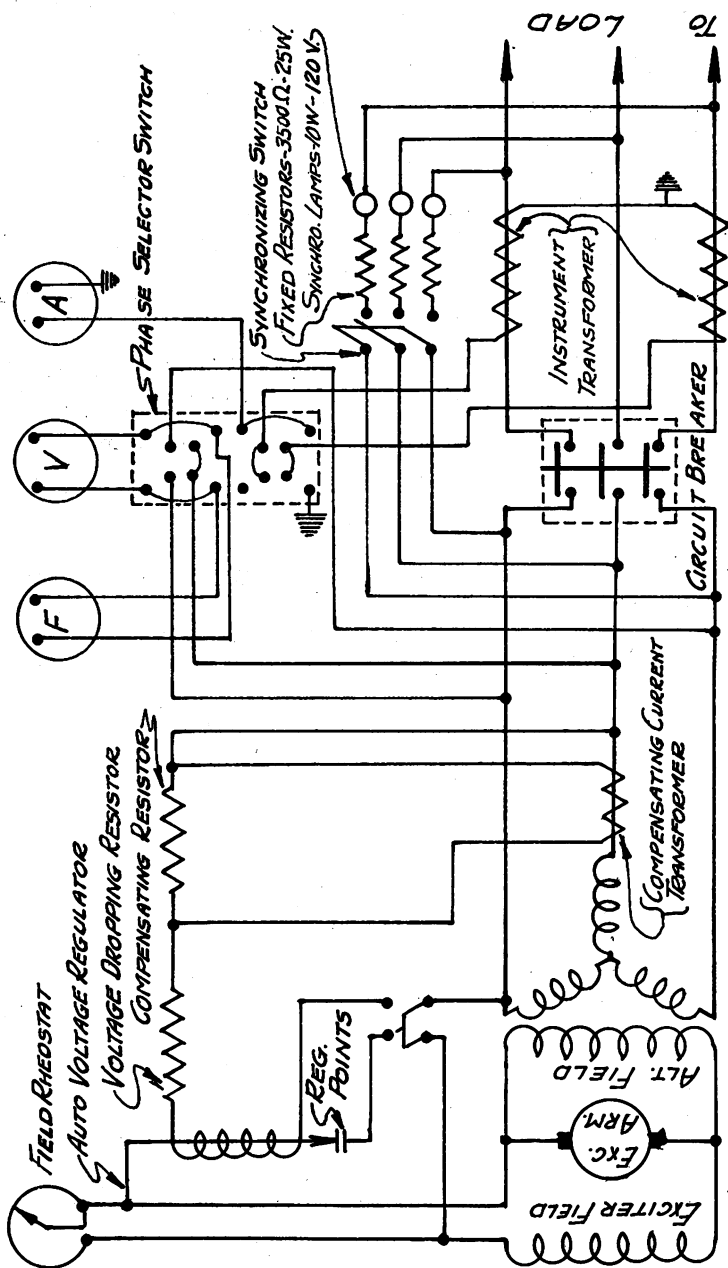

Figure 9. Alternator and control panel wiring diagram.
**d. Rheostat (fig. 3 [H]).** The rheostat permits the control of the alternator output voltage. The rheostat is simply an adjustable resistance placed in series with the exciter field winding and serves to lower or raise the voltage fed to the alternator revolving field winding through the slip rings connected to it. The automatic voltage regulator (fig. 3 [N]) is designed to control the rheostat without attention from the operator. Figure 9 shows how the voltage regulator is connected in the exciter field circuit. The lowering of the alternator output voltage due to an increase in load will cause the regulator points to make contact. This action shorts the field rheostat, increasing the exciter output voltage fed to the alternator field winding. The alternator output voltage is increased as a result of the increased field strength. If the voltage is increased more than  $2\frac{1}{2}$  percent of the rated voltage, the regulator contacts are